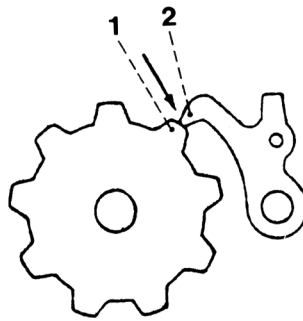

Fig. 2b
The feeler finger 2 must not touch the highest points of the zigzag cam 1 (fig. 2b).
- Turn screw 6 until it touches zigzag width cam 7 and the clearance between feeler finger 2 and the highest point of zigzag cam 1 is 0.1-0.2 mm (fig. 2b).
The lifting clearance between the feeler finger 2 and the highest point of the zigzag cam 1 must be 0.1-0.2 mm (fig. 2b)